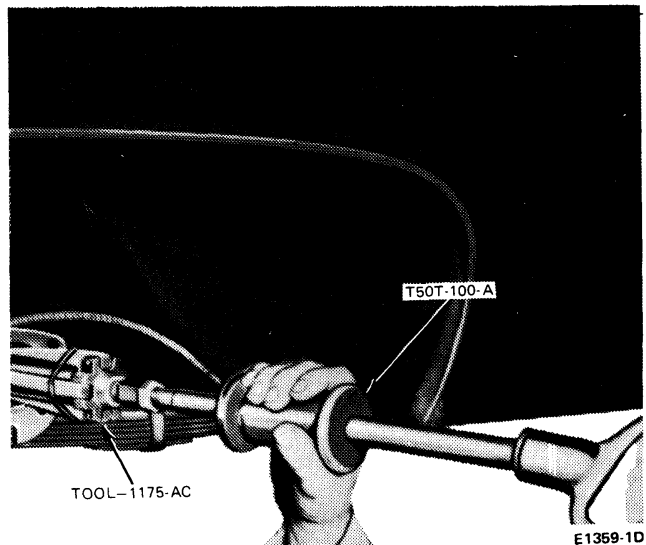

FIG. 8 Removing Oil Seal—Dana Model 44—Semi-Float Axle
2. Remove the inner axle shaft seal from the axle tube with seal remover Tool 1175-AC and slide hammer T50T-100-A (Fig. 8). Discard seal and replace with new one on assembly.